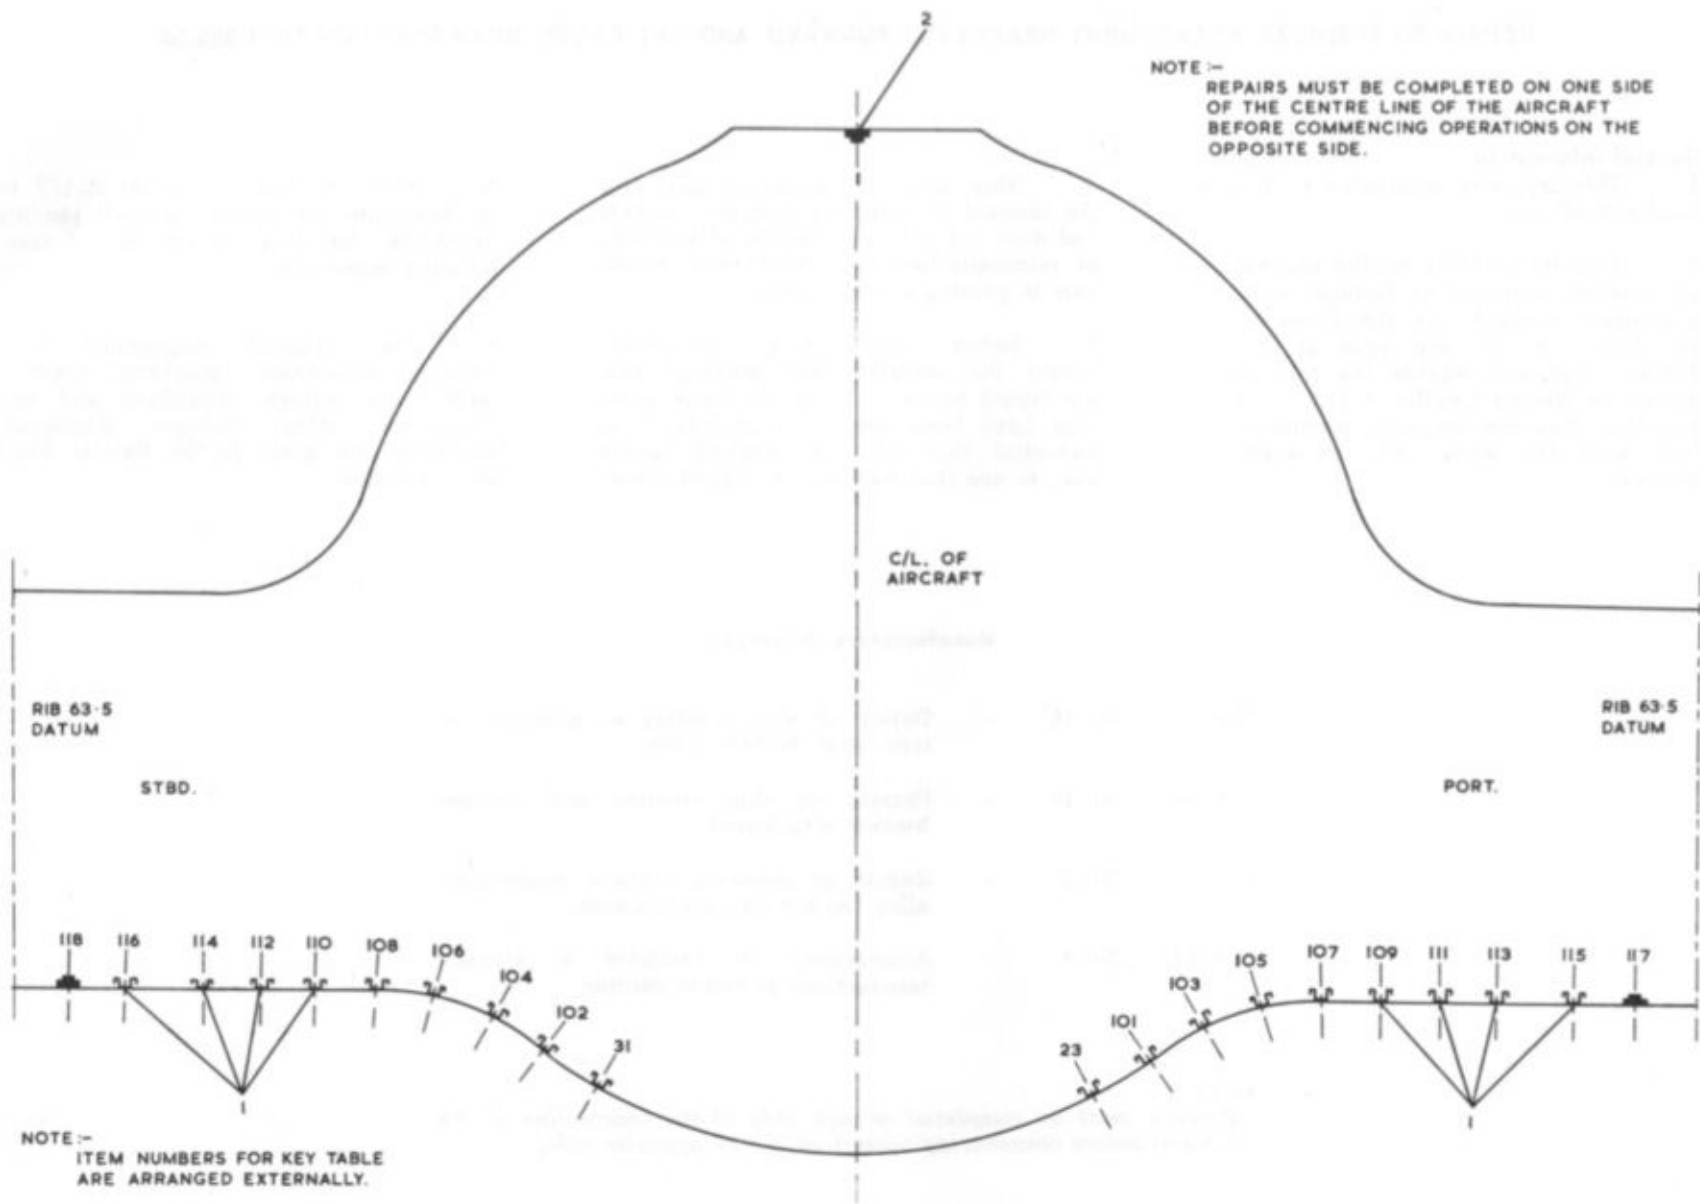

Fig.1. Rear spar, station 355.5A—forward and aft faces
6. The original magnesium alloy stringer attachment brackets, together with their stringer positions and new aluminium alloy stringer attachment brackets, are given in the Key to Fig.1 of this leaflet.
KEY TO FIG.1